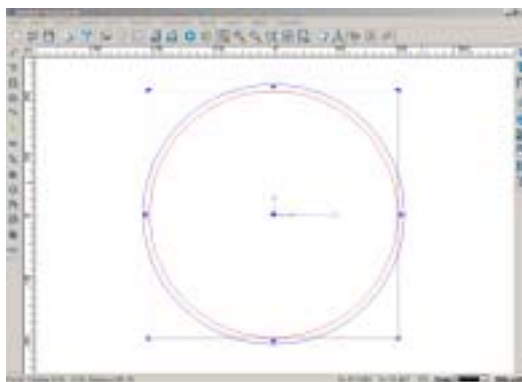

Fig. 10-18
3. Select an end mill with a diameter of 10 and height of blade of 22, and set the value of total depth at 10mm and choose clockwise cut direction. Then the effect is shown in Fig. 10-18.